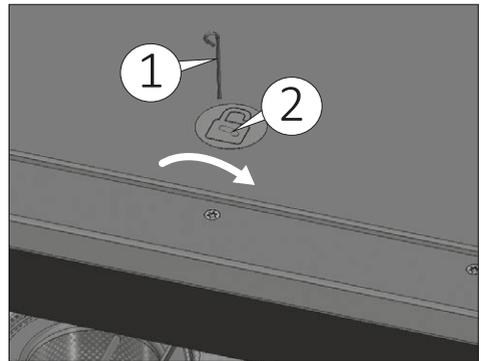

Fig. 13
- 1) Push the key supplied in the pack vertically into the hole on the worktop of the machine (1 Fig. 13), to position the key correctly, follow the position indicated by the padlock hole on the sticker (2 Fig. 13).